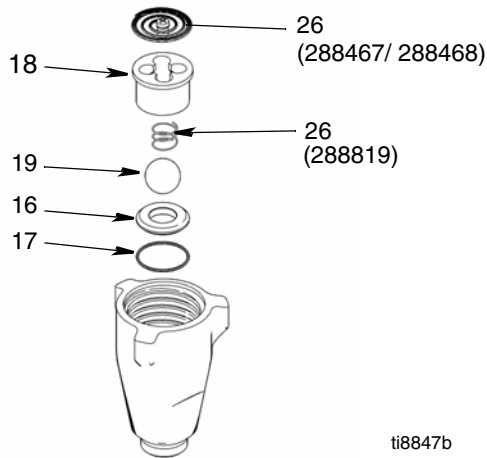

FIG. 16
14. (Fig. 16) Reassembly intake valve with new o-ring (17), seat (16) and ball (19). Seat may be flipped over and used on the other side. Clean seat thoroughly.